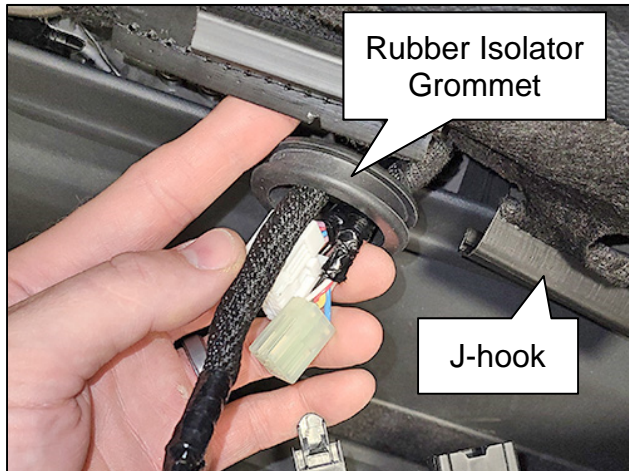
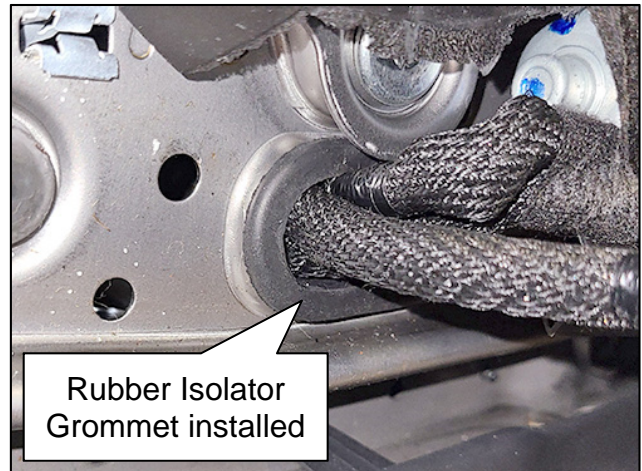

Figure 4
Figure 5
- c. Unlatch the plastic J-hooks that attach the seat leather to the seat frame (Figure 4 on page 3).
4. Install the Rubber Isolator Grommet (Figure 4) as shown in Figure 5.